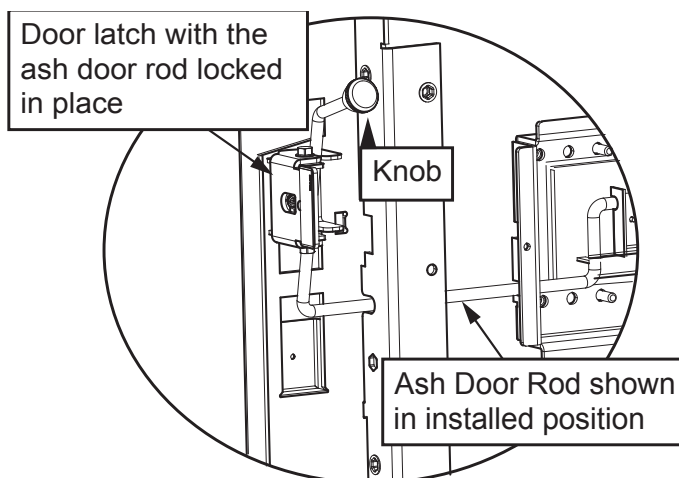

Figure 19.2
10. Add knob to handle rod (**Figure 19.2 on page 19**).